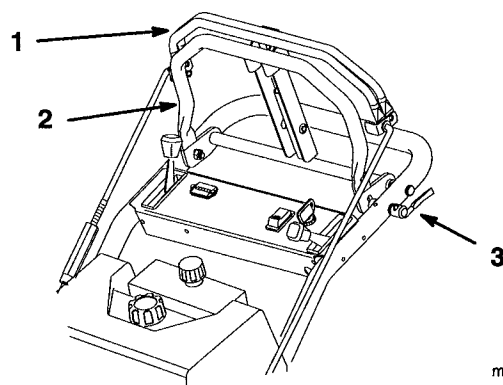

Figure 12
1. Place the quick release levers in the unlock position (Fig. 12).
2. Move the reference bar forward or backward to desired forward speed. The pointer indicates approximate ground speed (Fig. 12). When the bar is in the full forward position the ground speed is approximately 6 mph. When the bar is in the middle position the ground speed is approximately 3 mph.
3. Place the quick release levers in the lock position (Fig. 12).
1. To go forward, slowly press on the upper control bar against the reference bar (Fig. 12).
2. To go straight, apply equal pressure to both ends of the upper control bar (Fig. 12).
3. To turn, release pressure on the upper control bar side toward the direction you want to turn (Fig. 12).
5. Adjust reference handle to maintain a comfortable pre-set ground speed (Fig. 12).
6. To stop, release the upper control bar to stop both wheels (Fig. 12).
1. To go backward, slowly pull the control bar rearward (Fig. 12).
3. To turn, release pressure on the upper control bar side away from the direction you want to turn (Fig. 12).
4. To stop, release the upper control bar to stop both wheels (Fig. 12).
1. To stop, release the upper control bar to stop both wheels (Fig. 12).